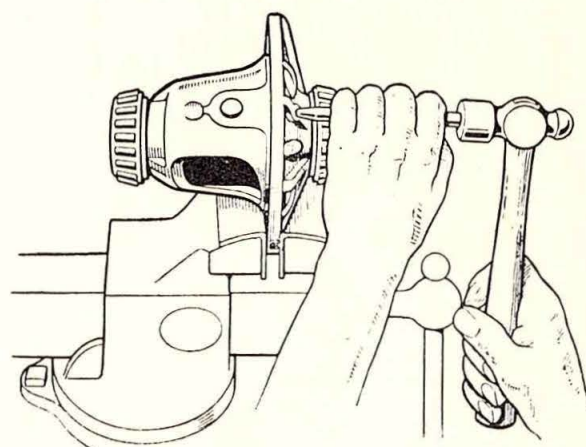

Fig. 9. Removal of the pinion mate shaft locking pin.
- (1) Bend down the tabs on the drive gear screws locking straps and remove the drive gear screws.
- (2) Remove the drive gear from the differential case by tapping with a rawhide mallet.
- (3) Using a small punch, drive out the pinion mate shaft locking pin, which is secured in place by peening the case, and remove the pinion mate shaft. Fig. 9 indicates the direction in which the